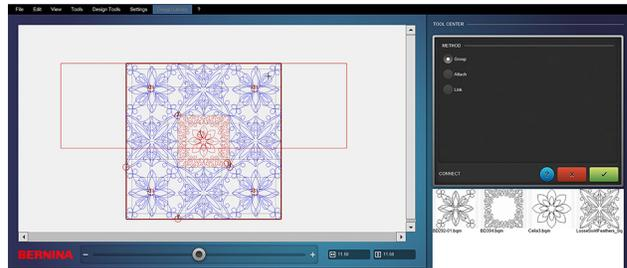

Fig. 85
9.  The center two blocks should be grouped before placement to maintain proper alignment (Fig. 85).